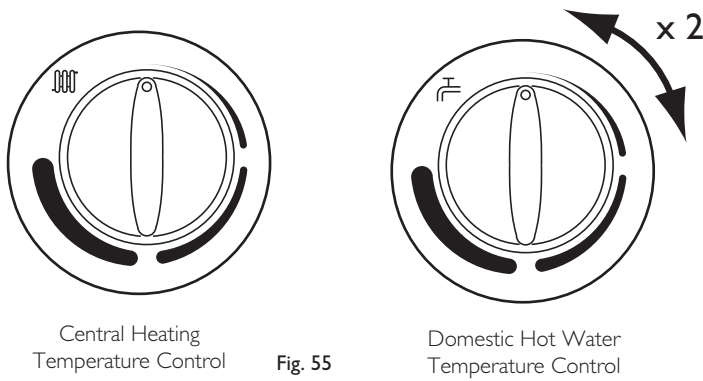

Fig. 55
3. Turn both temperature control knobs fully anticlockwise, then quickly turn the DHW temperature knob $\frac{1}{4}$ clockwise twice and back fully anticlockwise (Fig. 55).